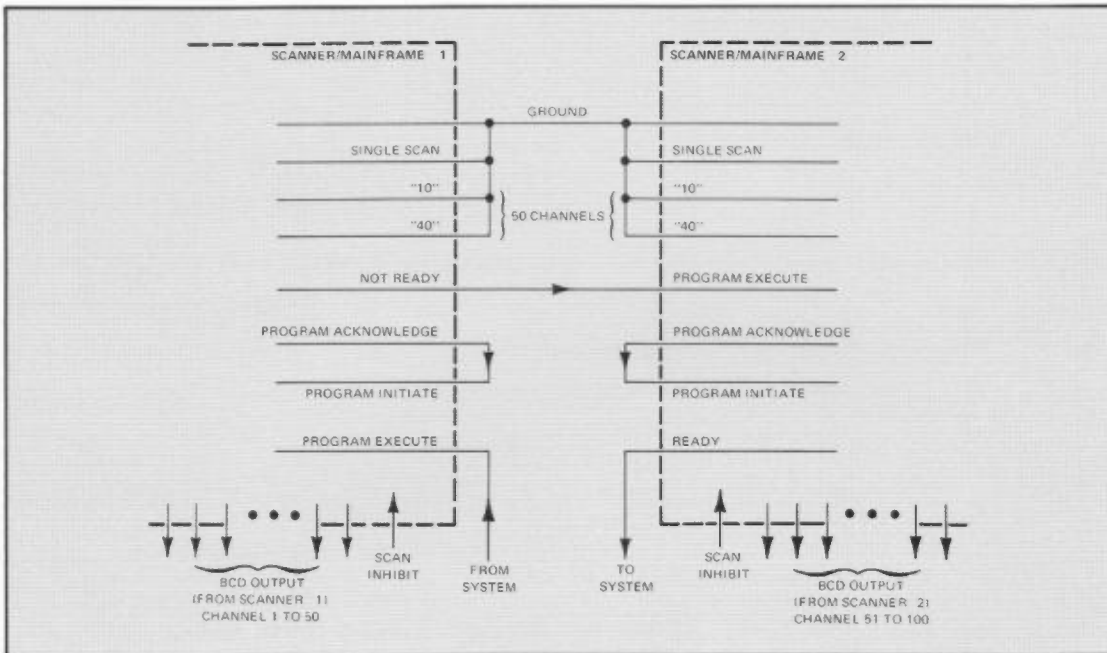

FIGURE 12
- Some users will need to scan more than 50 channels (the capacity of 3480/3485A combination). This may be done by cascading units together as shown in Figure 12.
Timing for cascading two scanners to scan 100 channels (see Figure 12 for inter-connections).